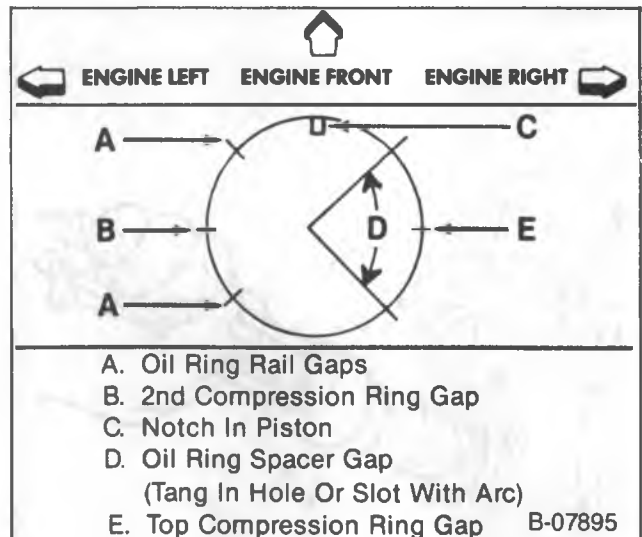

Figure 34—Piston Ring End Gap Location
- Locate the ring end gaps as shown in figure 34.